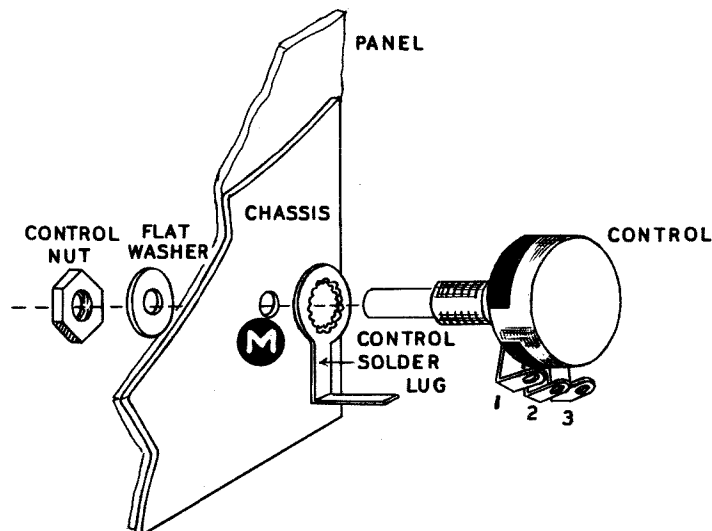

Figure 4
(N) Take the control solder lug, bend and form as shown in Detail 2 and cut off  $3/8$ ". Place the solder lug on the control and insert the control through hole (M) of the chassis and then through the front panel. Place a  $3/8$ " flat washer and a  $3/8$ " nut on the front. See Figures 4 and 5. Do not tighten. Line the control solder lug up with terminal #1 (S).